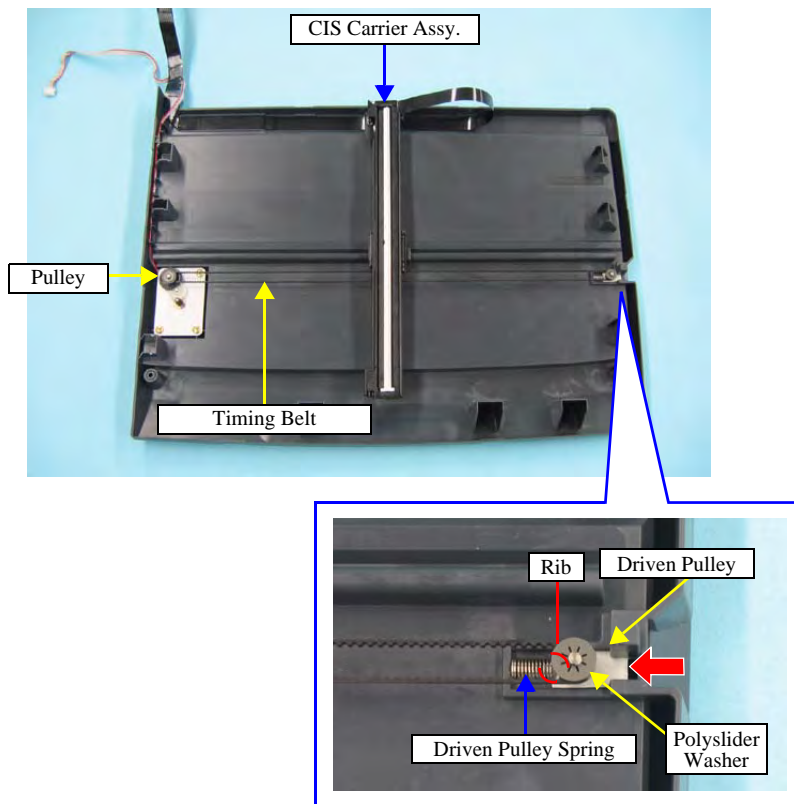

Figure 4-101. Removing Driven Pulley
- Insert the Driven Pulley Spring into the rib of the Driven Pulley. (refer to Figure 4-101)